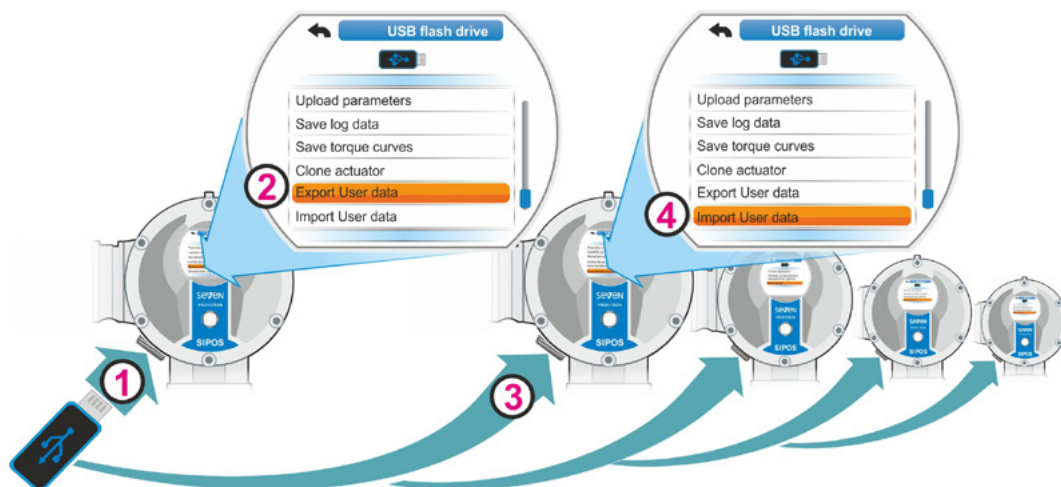

Fig. 1: Export user data to a USB flash drive and import to an actuator
1. Connect USB flash drive to the original electronics unit refer to fig. 1, item 1.
2. Scroll down in the menu and select 'Export user data' (fig. 1, item 2).
4. Connect USB flash drive to electronic unit of another actuator (fig. 1, item 3).
5. Select 'Import user data' in the menu (fig. 1, item 4) and confirm.